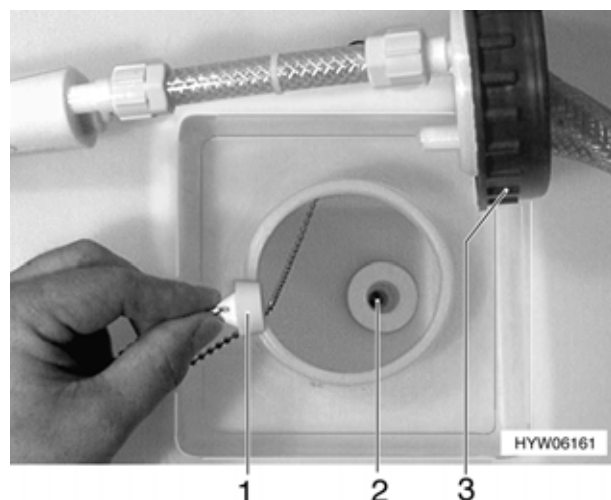

Fig. 145 Fresh water tank, plug (variant 1)
#### Variant 1 (Fig. 145):
- Close the drainage opening (Fig. 145,2) in the fresh water tank with the stopper (Fig. 145,1) provided.
- Remove the plug (Fig. 145,1).